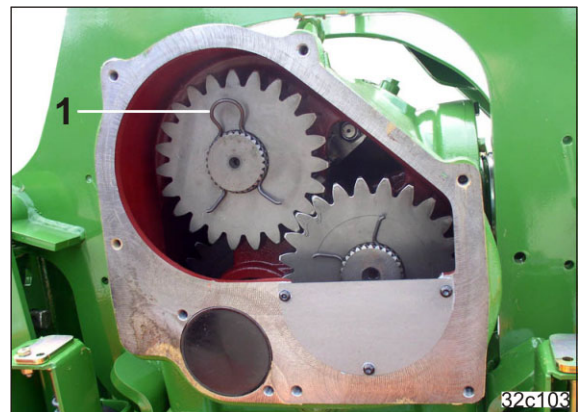

Fig. 122
4. Remove the retaining springs (Fig. 122/1).